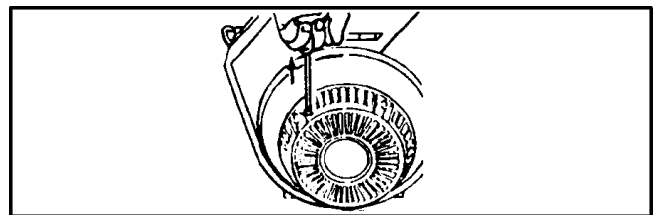

Figure 3-4. Recoil Starter - Vanguard Engine.
2. Place the gearshift in the neutral (N) position. Engage the hand lever holding brake, if equipped, and the emergency/parking brakes.
5. Grasp starter grip as illustrated and pull slowly until recoil engages (Figure 3-4).